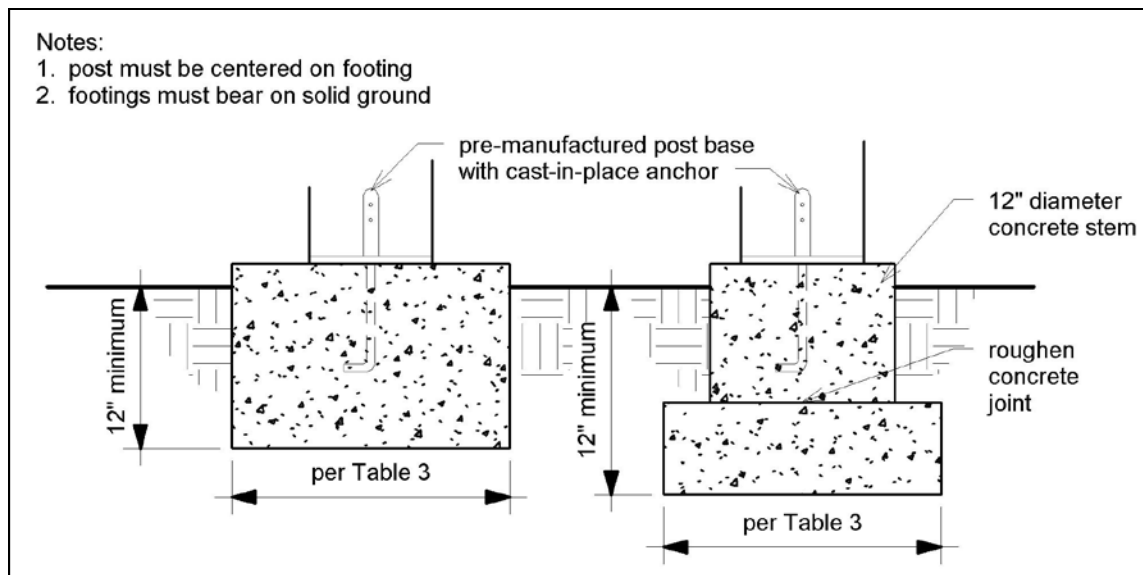

FIGURE 12: TYPICAL FOOTING OPTIONS
- See FIGURE 12 for post attachment options and requirements.